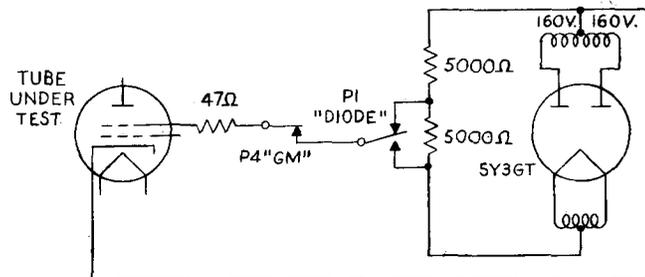

Fig. 7 - Reduced Screen Voltage Test Circuit
2.30 An added function is incorporated, as shown in Fig. 7, with the operation of the DIODE (P1) push switch to provide half-normal screen grid voltage (about 65 volts) in conjunction only with a regular transconductance test ( $G_m$ -P4 switch operated). This test is required principally for small battery powered or older type Western Electric and commercial tubes which normally operate with lower screen grid voltage in the 60 to 100-volt range, to obtain more precise transconductance measurements. The use of half-normal screen grid voltage also minimizes the possibility of exceeding the maximum plate-screen power ratings of such tubes under test.